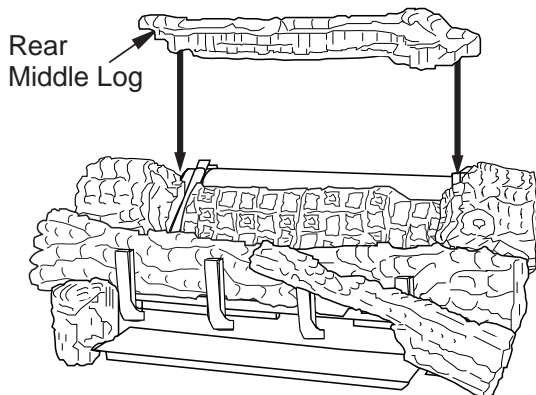

Figure 34 - Installing Rear Middle Log
8. The rear middle log (18" D-068, 24" & 30" D-042) should fit between the ramp log and the rear burner. The left and right middle logs have recessed areas for the rear middle log to sit into (See **Figure 34**). There may be a small gap between the rear middle log and the ramp log, this is normal.. Be careful not to push the rear burner out of position while installing this log.